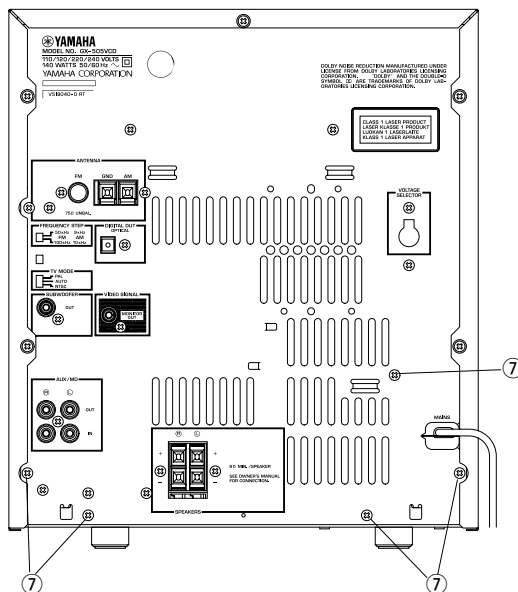

Fig. 6
6. Operation Check of Main P.C.B. (1)
- d. Remove 5 screws (⑦) in Fig. 6.